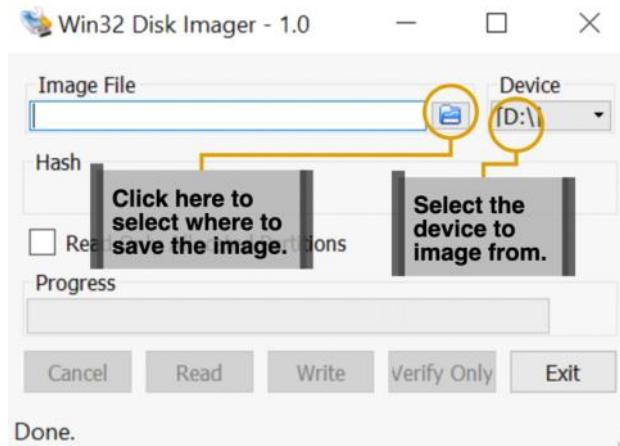

Figure 5.4 – Win32 Disk Imager
3. Highlighted on the right of *Figure 5.4* is the **Device**; this should have automatically found the SD card device. Use the folder icon highlighted to choose where the image file will be stored: